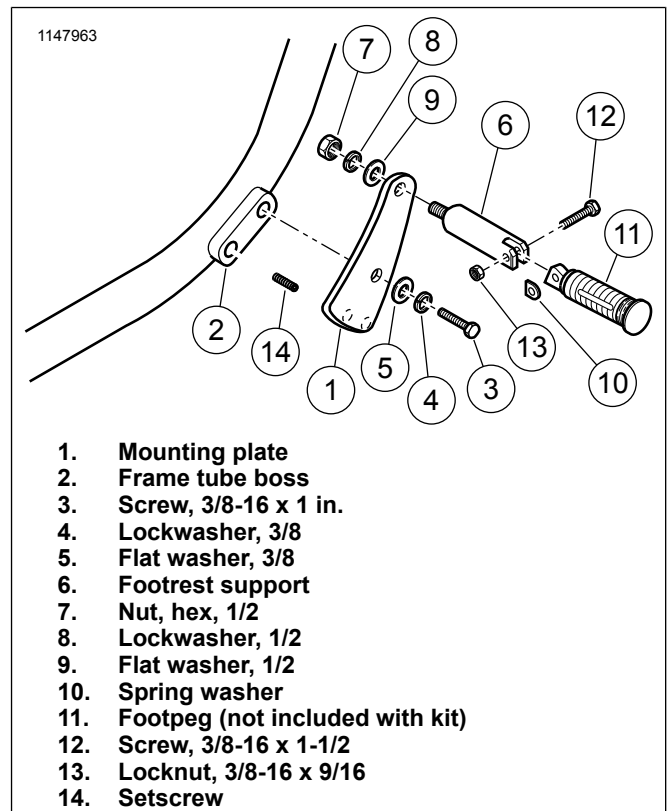

Figure 1. Footpeg and Footpeg Mounting Kit Installation (Right Side of Vehicle)
1. See Figure 1. Install setscrew (14) into lower hole on frame tube boss (2) leaving .20 in. of setscrew (or three threads) exposed.
2. Place highway peg mounting plate (1) into position. For a lower peg position, place bottom hidden hole in mounting plate over setscrew. For a higher peg position, place upper hidden hole in mounting plate over setscrew. Attach mounting plate to frame tube boss using 1 in. long screw (3), lockwasher (4), and flat washer (5) from kit. Tighten.